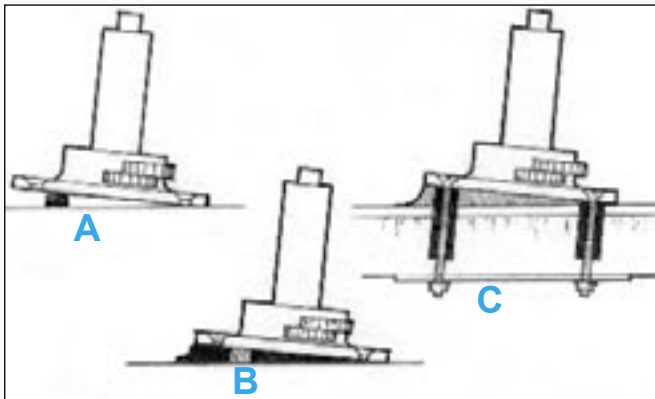

Figure 19 Support the base in position with blocking - apply enough thickened epoxy to fill the void.
- Bond small blocks to the substrate to support the base at the desired height and position (*e.g., winch base, Figure 19"A"*).
- Place the hardware in position, resting on the blocks (*Figure 19"B"*) and install the fasteners.
- Smooth the excess epoxy into the desired fillet shape around the base (*Figure 19"C"*). Allow the epoxy to cure fully before loading. Protect exposed epoxy from UV. (*see finish coating page 29*).